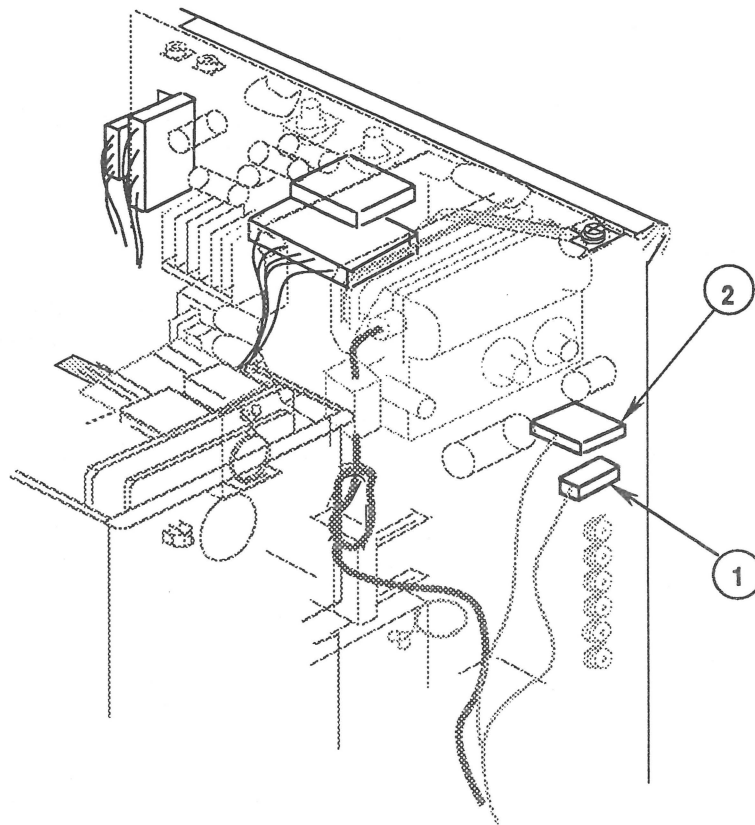

FIGURE 43
- **GB** connector from the CRT (Figure 43, #1)
- **T** connector from the CRT board (Figure 43, #2) (this connector is not tabbed and is OK to install either way)